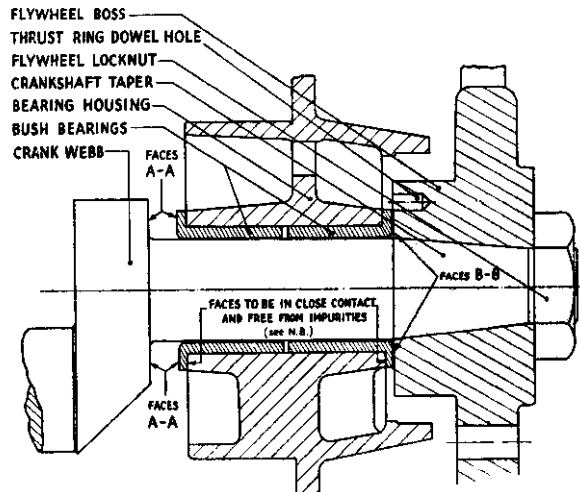

Fig. 4
It comprises two bush bearings VL-66, each a press fit in end cover VL-271 as shown in Fig. 4.
N.B. It is important that the inner flanges of the bushes are in close contact with the faces of the bearing housing, otherwise there is a risk of excessive end float developing after the initial run. (See Fig. 4).
Illustration Fig. 4 shows arrangement.
- v. With faces BB (Fig. 4) held tightly together check the clearance between the faces AA very carefully indeed.